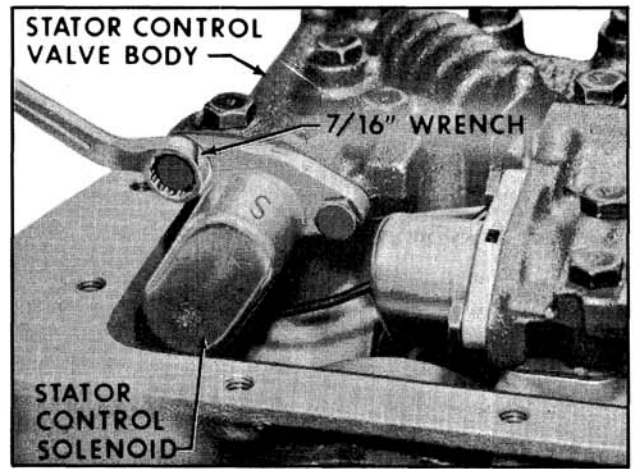

Fig. 6-534 Installing Stator Control Solenoid
7. Install stator control solenoid and gasket to stator control valve body. Torque bolts to 12 ft. lbs. (Fig. 6-534)